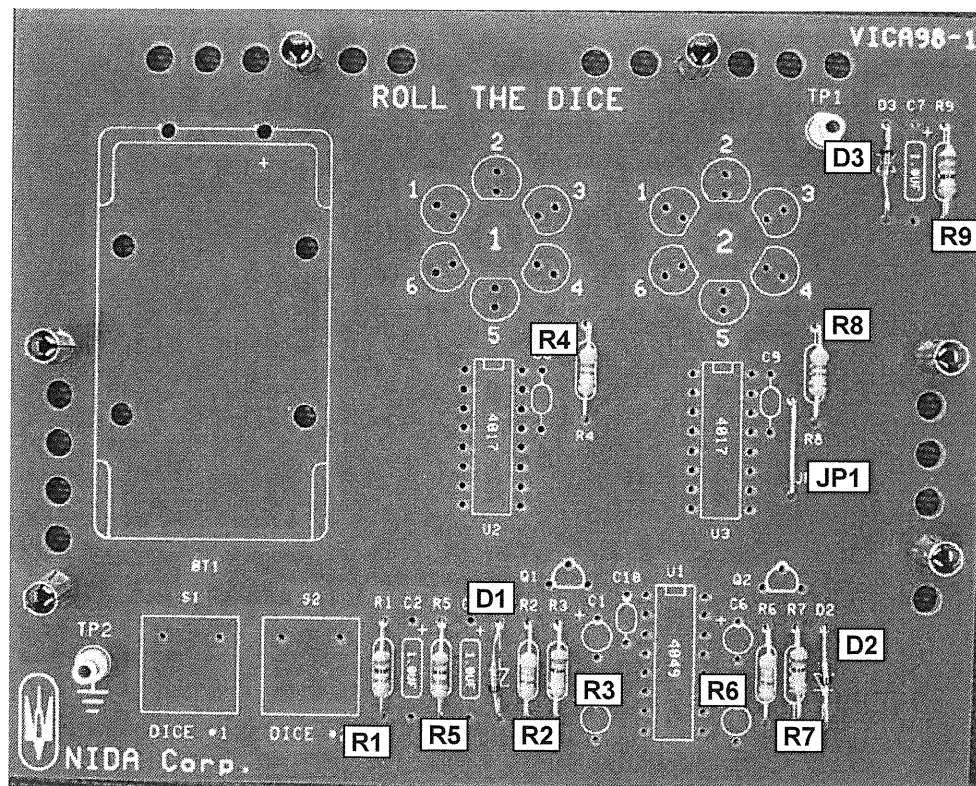

Figure 3
- c. Install and solder the $\frac{1}{2}$ " precut jumper, the nine resistors, and the three diodes as shown in Figure 3. Observe polarity on the diodes and install the resistors so the color codes can be read from top to bottom when installed on the circuit board.